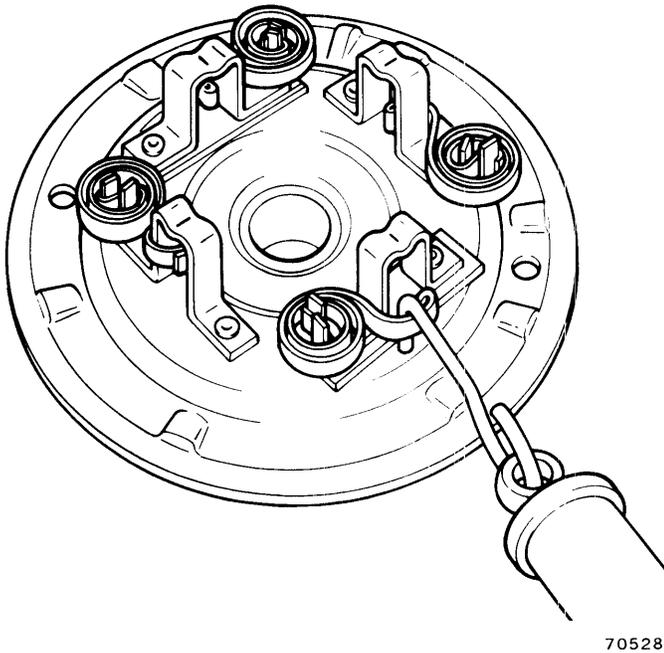

Fig. 3-47 Checking Brush Spring Tension
(10) Inspect brush holders for broken springs and insulated brush holders for shorts to ground. Tighten any rivets that may be loose. Replace brushes if worn to 1/4 inch in length. Check brush spring tension. Replace springs if tension is not within 40 ounces maximum (fig. 3-47).
(11) Inspect field coils for burned or broken insulation and for broken or loose connections. Check field brush connections and lead insulation.